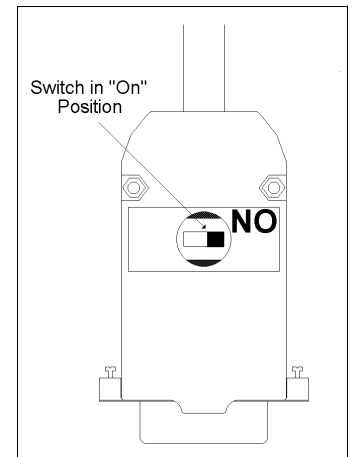

Figure 1: Switch location on Flash Write Cable
2. As shown in the Figure 1, the 9-pin D-shell end of the flash write cable contains a small switch. With a small screwdriver or similar device, move the switch to the "on" position.